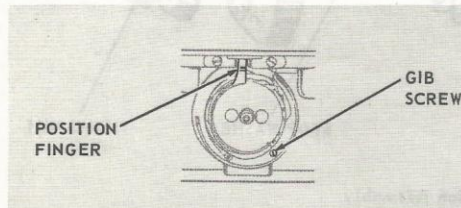
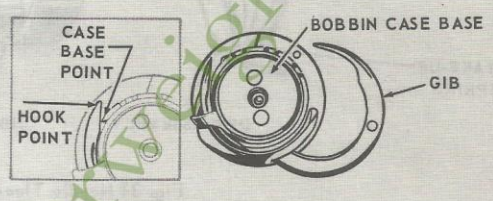

Fig. 34. Removing Gib Screw
Fig. 35. Removal of Bobbin Case Base
2. Remove gib screw, Fig. 34, and displace gib as shown in Fig. 35.
3. Turn bobbin case base so small point on bobbin case base is beneath point of sewing hook as shown in Fig. 35.
1. Replace bobbin case base in position as shown in Fig. 35. Rotate it slightly until it seats.